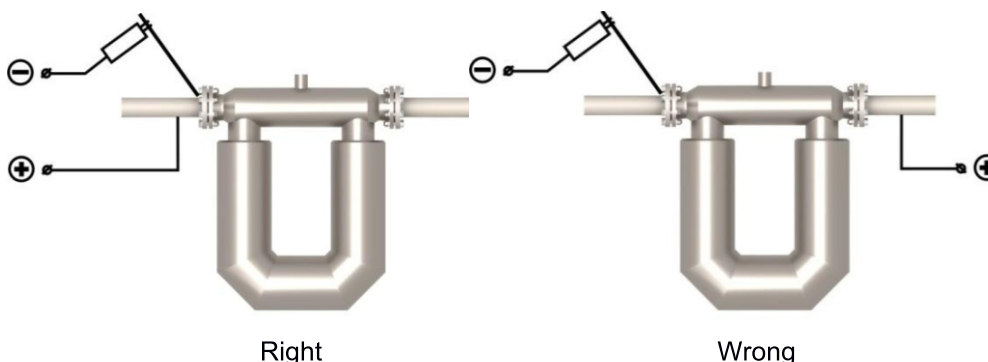

Figure 2.3 Connecting the power source for arc welding using the flowmeter
- when installing using an electric arc welding ,the power source is connected in a way that prevents the welding current to run through the flowmeter - see Figure 2.3.